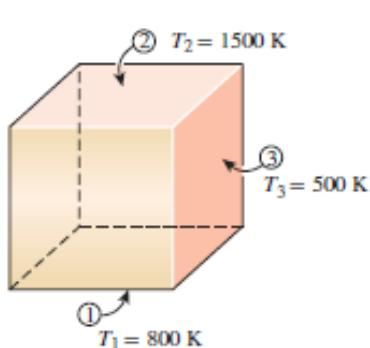

Figure 5
- b) Consider the  $5\text{m} \times 5\text{m} \times 5\text{m}$  cubical furnace shown in Figure 5, whose surfaces closely approximate black surfaces. The base, top, and side surfaces of the furnace are maintained at uniform temperatures of 800 K, 1500 K, and 500 K, respectively. Determine (a) the net rate of radiation heat transfer between the base and the side surfaces, (b) the net rate of radiation heat transfer between the base and the top surface, and (c) the net radiation heat transfer from the base surface.